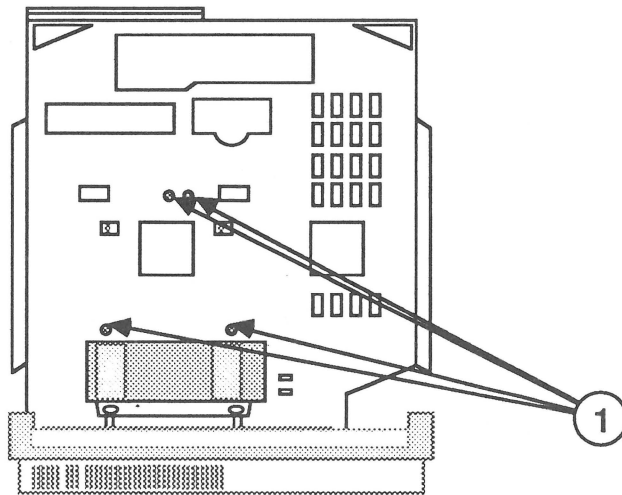

FIGURE 35
6. With the bottom of the chassis facing you, remove the four Phillips screws (Figure 35, #1) that secure the lower internal drive to the bottom of the metal chassis. Lift the drive free.
3. Replace the four Phillips screws (Figure 35, #1) that secure the internal drive to the bottom of the metal chassis.